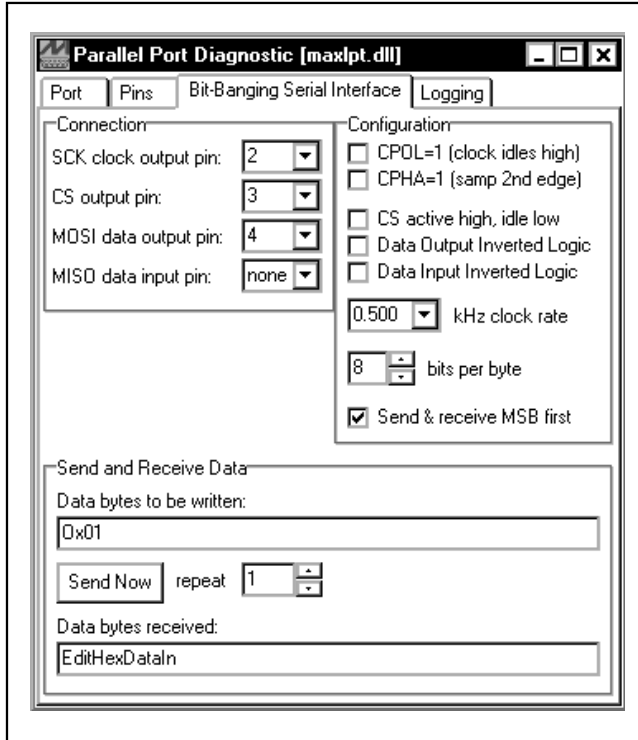

Figure 2. Parallel Port Diagnostic Window's Bit-Banging Serial Interface Tab
- 9) Enter 0x01 into "Data bytes to be written" and click on Send Now (Figure 2).